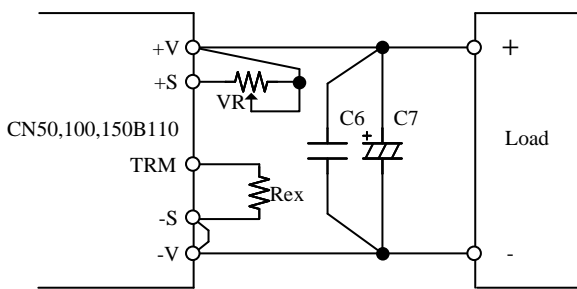
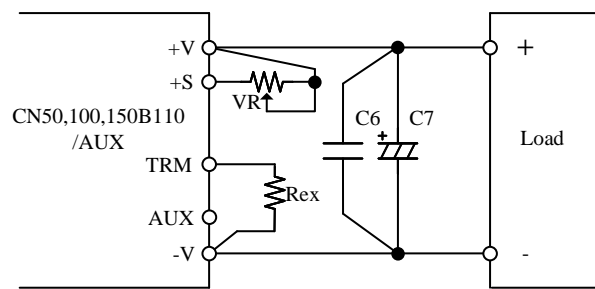

Fig.7-9 Example of Connecting External Resistor (To adjust output voltage for whole range) of standard model
Fig.7-10 Example of Connecting External Resistor (To adjust output voltage for whole range) of standard model
Output voltage can be adjusted within specifications of output voltage adjustment range if resistance values of external resistor (Rex) and external variable resistor (VR) as follows are connected like a Fig. 7-9 and Fig.7-10. Take note that output voltage do not become out of specifications when output voltage is adjusted.